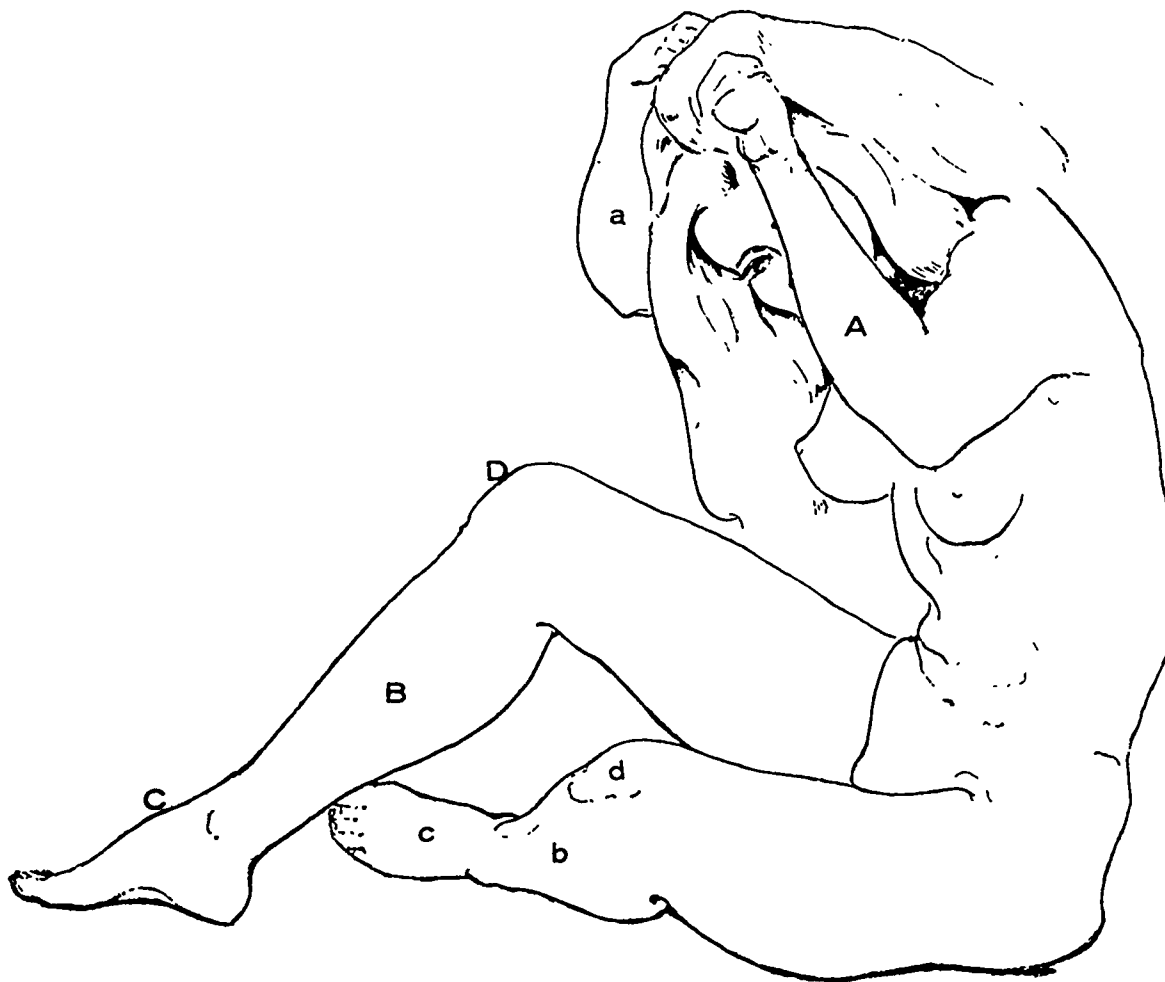

Figure 2-20. Foreshortening.
**Foreshortening.** When working with compound forms, a graphics specialist must be conscious of an illusory effect called *foreshortening*. When an irregular (free) form appears to go toward or recede from the viewer, it is foreshortened. If in the irregular or "free" forms there are many curves, such as in the human figure, foreshortening is very difficult to create. A great deal of practice in drawing the human figure in a variety of different positions will give you experience in foreshortening. Also, the principles of measurement that apply to geometric forms can be used to great advantage in foreshortening the human figure. In figure 2-20, these principles have been applied in determining how much or how little is seen of the human figure, sitting on the floor with parts of the body toward the viewer. Notice particularly the lettered areas; the overcase letters designate foreshortening. In some unusual views, it is helpful to draw the figure in a cube or rectangular form that will quickly determine if and where a part of the human anatomy can be seen and in what approximate shape. Perspective can be the cure for many problems you may run into while drawing all types of forms. Remember to give careful consideration to the location of the station point so that distortion is minimized.